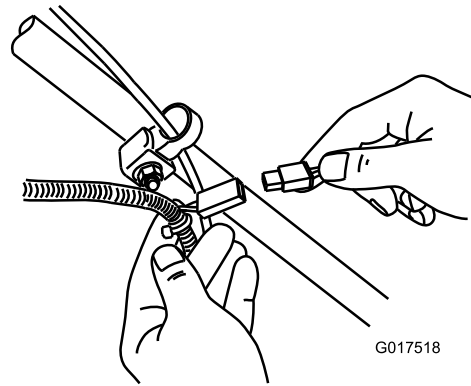

Figure 34
1. Connect the charger to the wire harness, which is located below the ignition key (Figure 34).